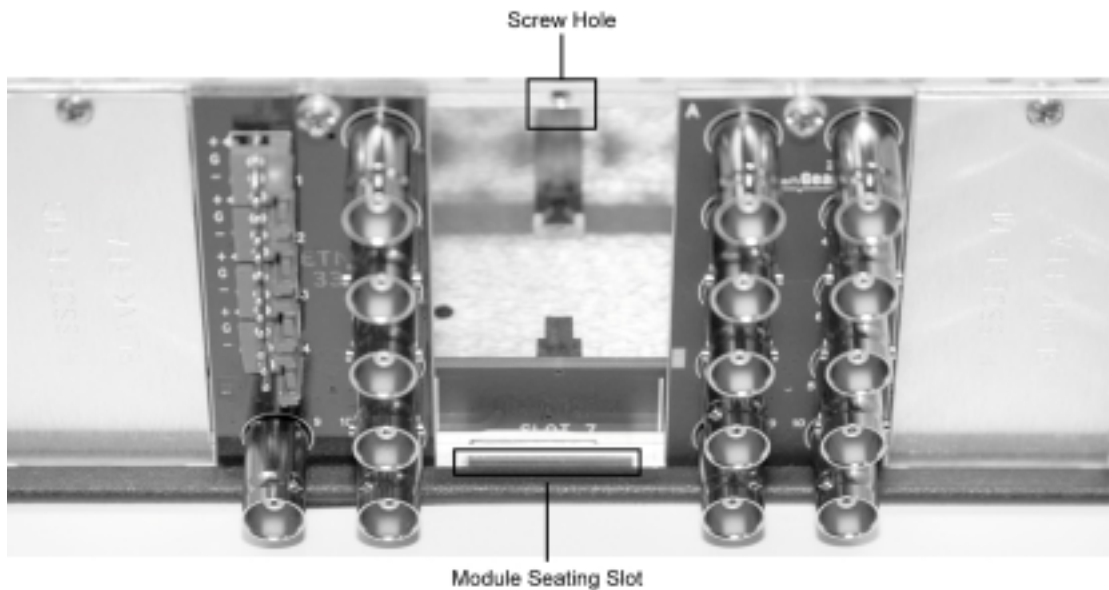

Figure 2. Rear Module Installation
3. As shown in Figure 2, seat the bottom of the RM-9003-A in the seating slot at the base of the frame's back plane.